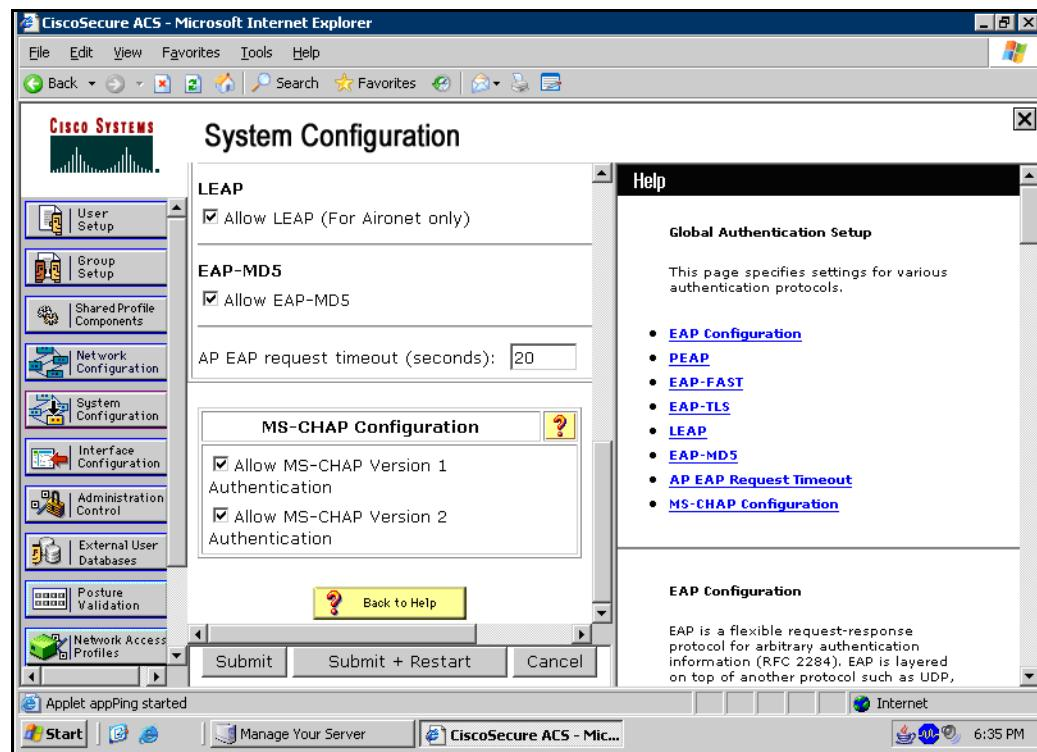

FIG. 62 EAP-LEAP sample Cisco System Security page
- Refer to FIG. 62 for an example of how a typical EAP-LEAP system configuration page should appear.